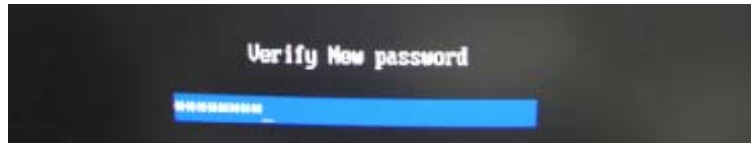

Figure 7-4: Verify New Password
Step 4: Verify the new password by entering again (Figure 7-4).